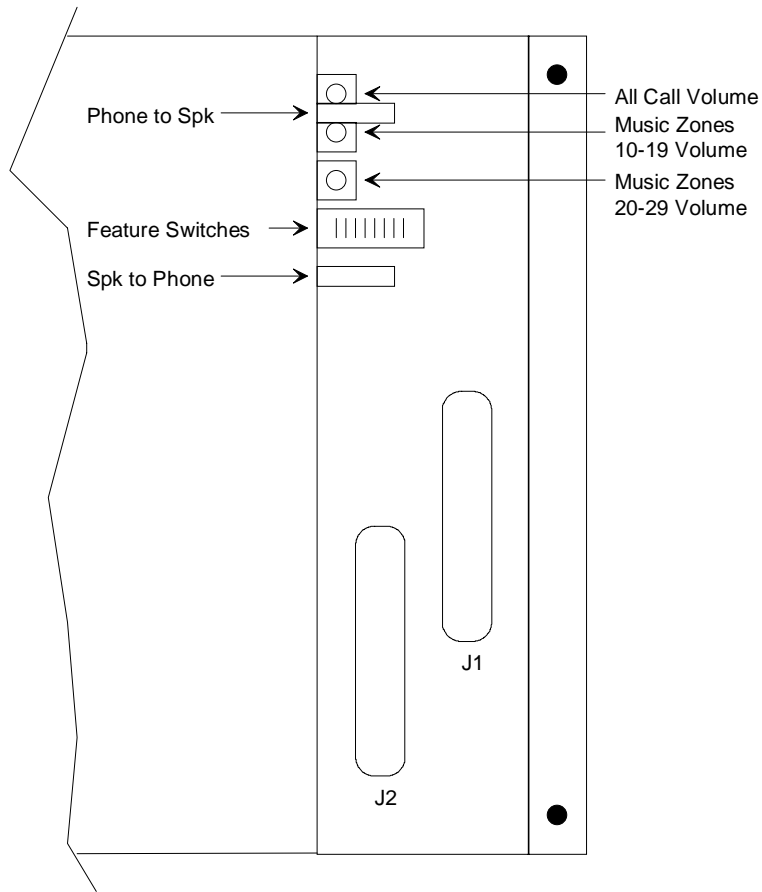

FIGURE 5 - CONTROL AND CONNECTOR LOCATIONS
3. Paging at speaker but no reply from speaker.	2b. Refer to Figure 5 and adjust Phone to Speaker volume.
4. No system ringing when the doorplate button is pressed.	3. Refer to Figure 5 and adjust Speaker to Phone volume.